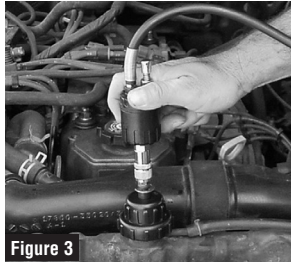

Figure 3
3. Position the female quick-disconnect fitting at the end of the pump's rubber hose over the male quick-disconnect fitting on the adapter and press down. Make sure the moveable sleeve on the quick-disconnect fitting snaps forward and that the coupling is fully engaged. See Figure 3.